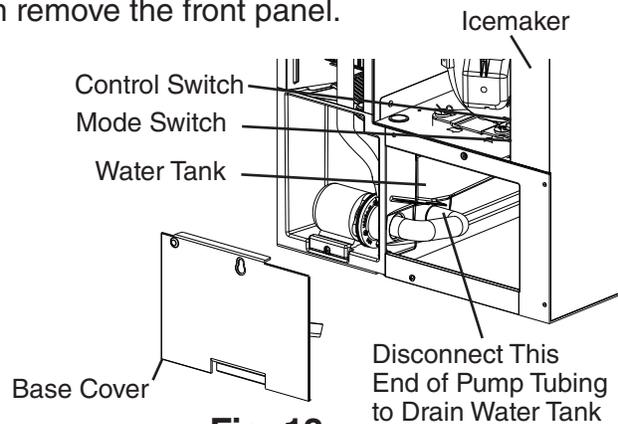

Fig. 18
- 12) Move the control switch to the "OFF" position, then remove the base cover and disconnect the rear pump tubing connection to drain the water tank. See Fig. 18.